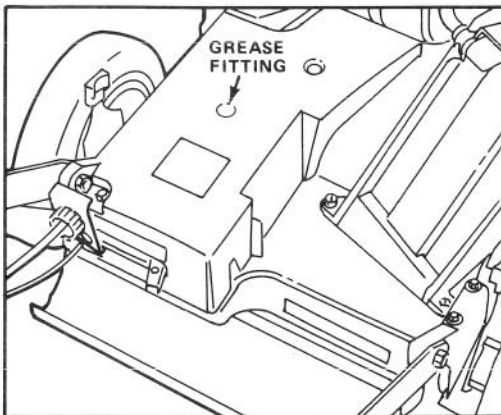

Figure 22
2. Install grease gun onto fitting thru belt cover opening (Fig. 22). Gently apply 1-2 pumps of grease.